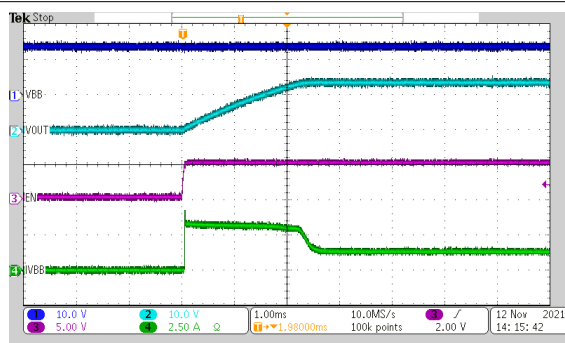

**Figure 9-5. Charging a 470- $\mu$ F Capacitor**
**Figure 9-5** shows a test example of charging a 470- $\mu$ F capacitor. Test conditions:  $V_{BB} = 13.5$  V, input is from low to high, load is a 470- $\mu$ F capacitive load, ILIM pin is shorted to GND. CH4 is the output current, CH3 is the input step. CH2 is the output voltage, VOUT. CH1 is the supply voltage, VBB